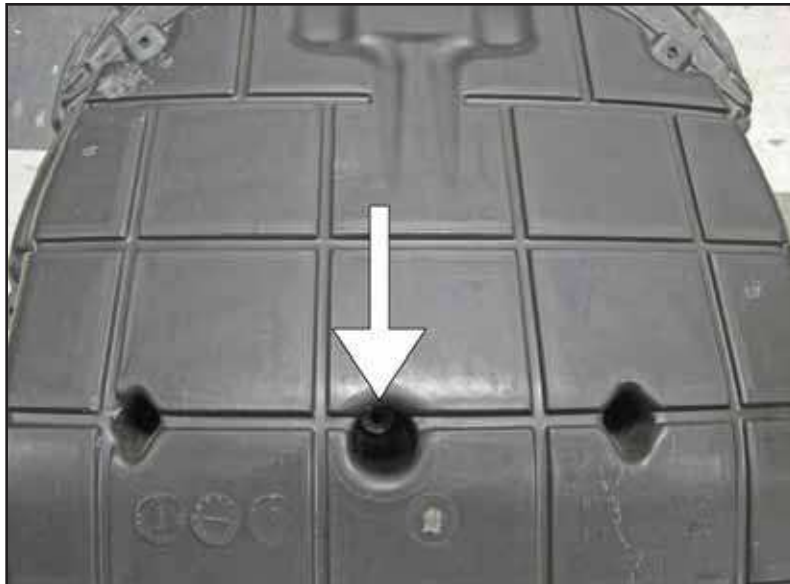

Fig. 1
**NOTE: The center airbox screw will not be installed with the K&N® air filter. Fig 1**